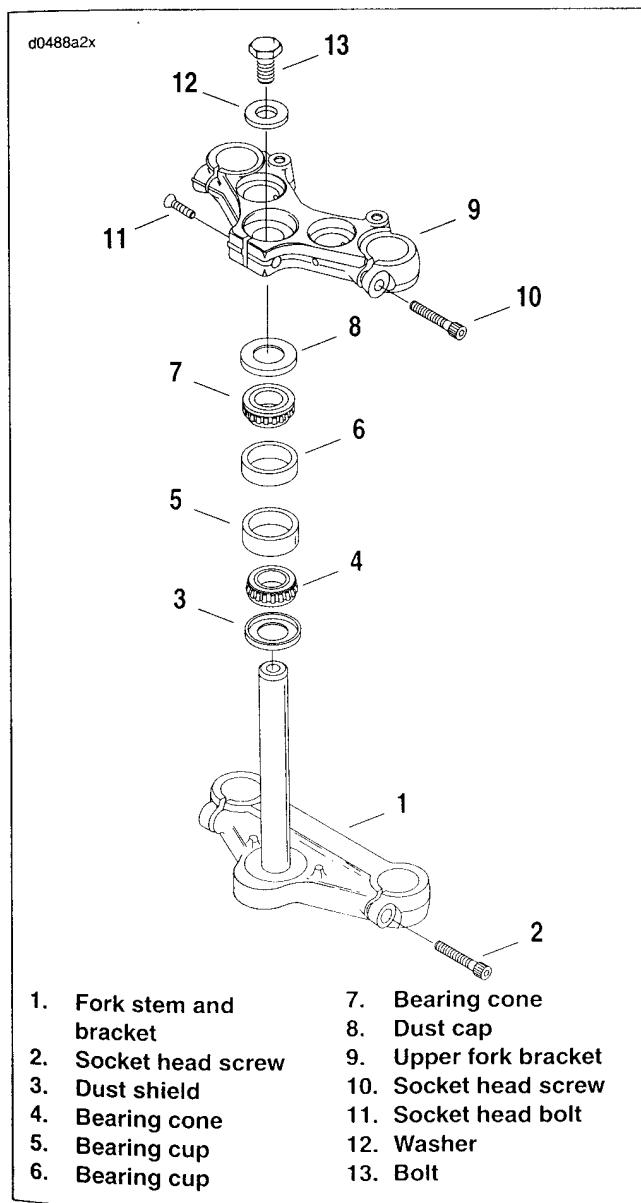
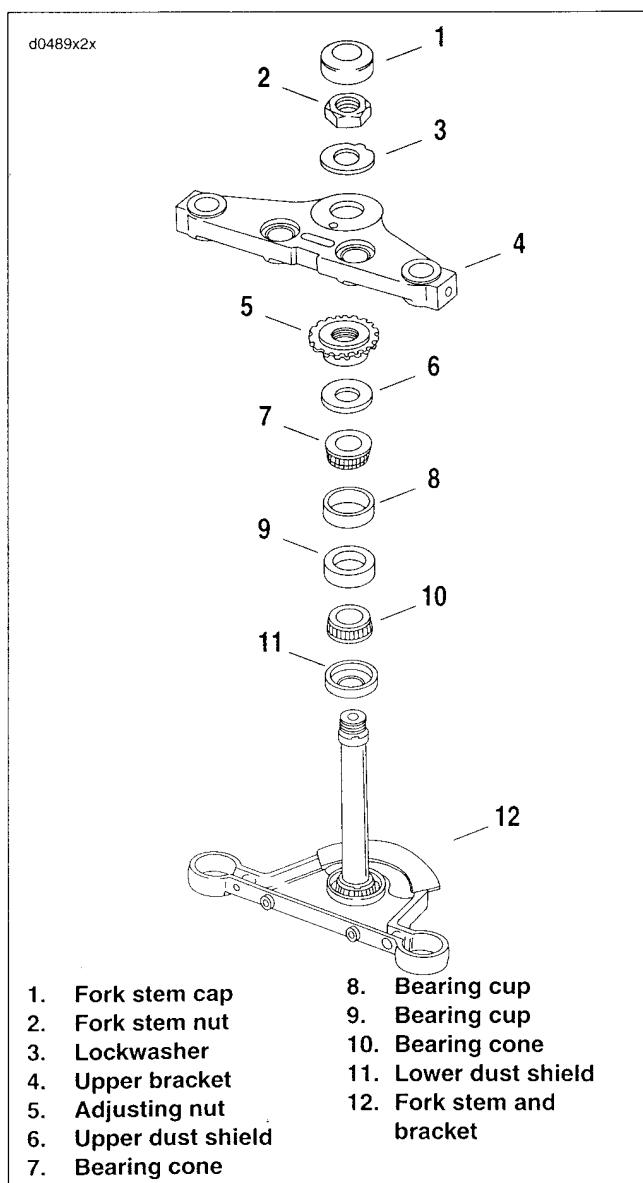

Figure 2-101. FXDL Style Steering Head
Figure 2-102. FXDWG Steering Head
2. See Figure 2-101. Remove bolt (13), washer (12) and loosen socket head bolt (11). Lift handlebars from steering head with upper bracket (9) attached. Be careful not to pinch or kink control cables.
3. Remove dust cap (8) and bearing cone (7). Slide fork stem and bracket (1) from frame.
4. See Figure 2-102. Remove the fork stem cap (1). Bend the lockwasher tab away from the fork stem nut (2) and remove the fork stem nut with the handlebar and upper bracket (4).
5. Remove the adjusting nut (5) and pull the fork stem and bracket (12) out of the steering head. Remove the upper dust shield (6).
5. If necessary, remove bearing cups (FXDL style items 5, 6 in Figure 2-101./FXDWG items 8,9 in Figure 2-102.) using the same tools. **If bearing cups are removed, the bearings cannot be reused. They must be replaced.**
1. See Figure 2-101. Insert the fork stem and bracket (1) into steering head of frame. Install the bearing (7) and dust cap (8).
1. See Figure 2-102. Insert the stem and bracket assembly into the frame steering head and install the upper bearing and dust shield (6). Secure with the adjusting nut (5). Tighten the bearing seat until the bearings have no noticeable shake. Fork stem must turn freely from side to side.
2. Install upper bracket (4), a new lockwasher (3) and fork stem nut (2). Be sure pin on lockwasher registers in upper bracket hole. Tighten nut securely. Tighten upper bracket pinch screws to 21-27 ft-lbs (28.5-36.6 Nm).
7. Tighten fork stem nut to 35-40 ft-lbs (47-54 Nm). Bend the lockwasher tab against the nut (2) flat.